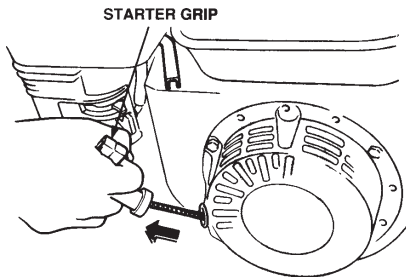

Figure 12. Starter Grip
- Grasp the starter grip (Figure 12) and slowly pull it out. The resistance becomes the hardest at a certain position, corresponding to the compression point. Pull the starter grip briskly and smoothly for starting.